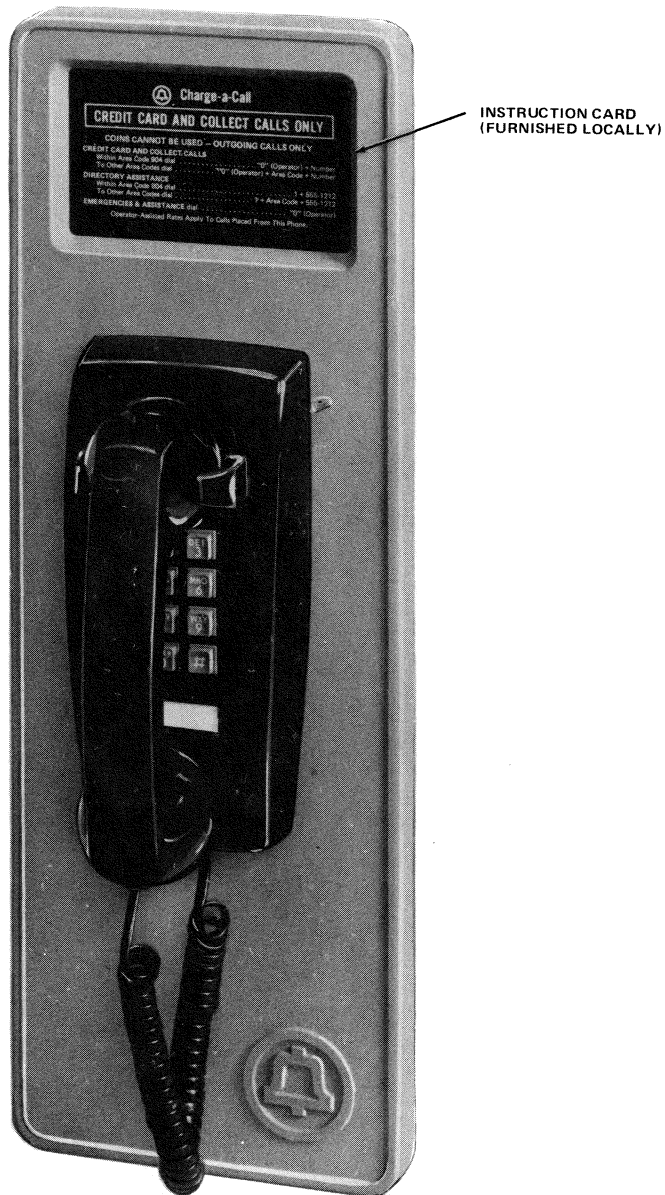

Fig. 3—KS-22284 Backboard With 2554-Type Telephone Set
- (c) The KS-22284 backboard (Fig. 3)
- (d) The 2554-type telephone sets (Fig. 3).
C. KS-22284 Backboard (Fig. 3 and 9)
2.24 The instruction card (Fig. 3 and 11) must be fabricated and procured locally.